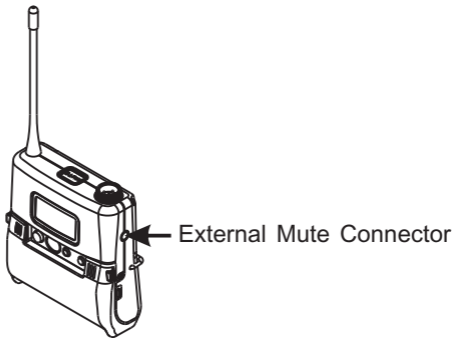

Fig. 22
4. External Mute Connector, Fig. 22.